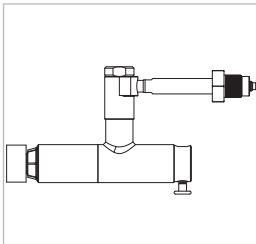

Figure 7
- ▶ Release the valve button (Pos. 4). The connector tightens itself to the test piece and creates a pressure-tight connection (Figure 7).